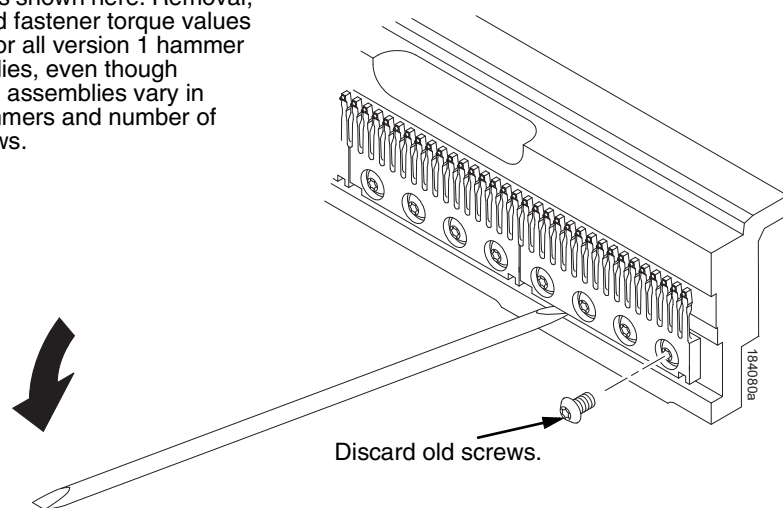

Figure 24. Hammer Spring Assembly, Removal
5. Remove the mounting screws from the old hammer spring assembly. (See Figure 24.)
6. Handling the hammer spring assembly by the mounting base only, gently push up the mounting base and pry the old hammer spring assembly off its mounting pins. (See Figure 24.)